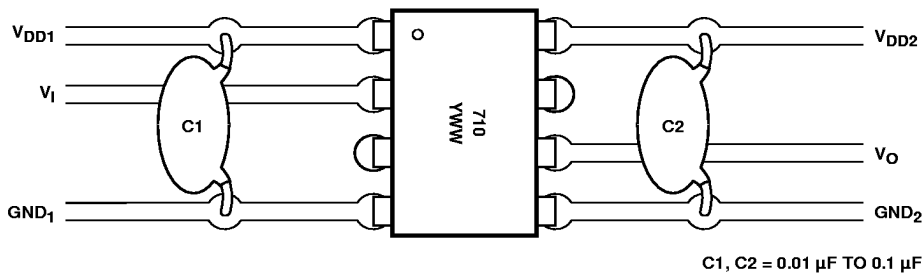

Figure 13. Recommended Printed Circuit Board Layout.
0.1 μF . For each capacitor, the total lead length between both ends of the capacitor and the power-supply pins should not exceed 20 mm. Figure 13 illustrates the recommended printed circuit board layout for the HPCL-x710.